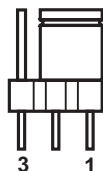

Fig. 1b
5. If testing is ok, set the Jumper link as shown in Fig. 1b, which is what the keypad is set to normally.